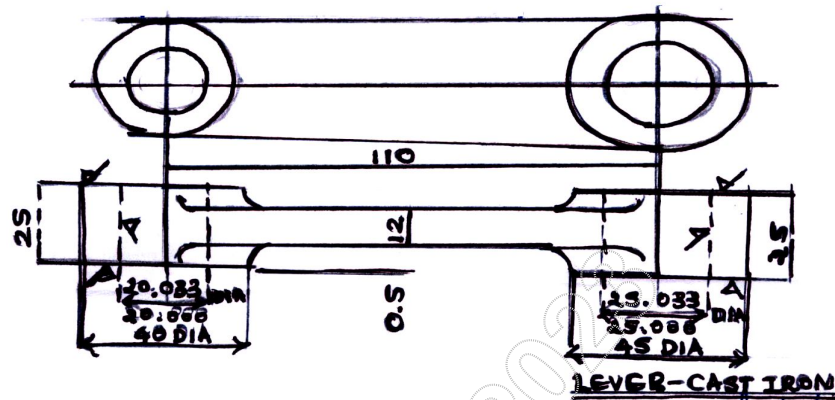

Fig.Q.7(a)
- 7 a. With suitable diagrams explain various possible and probable parting line for the cast part shown in Fig.Q.7(a). (12 Marks)